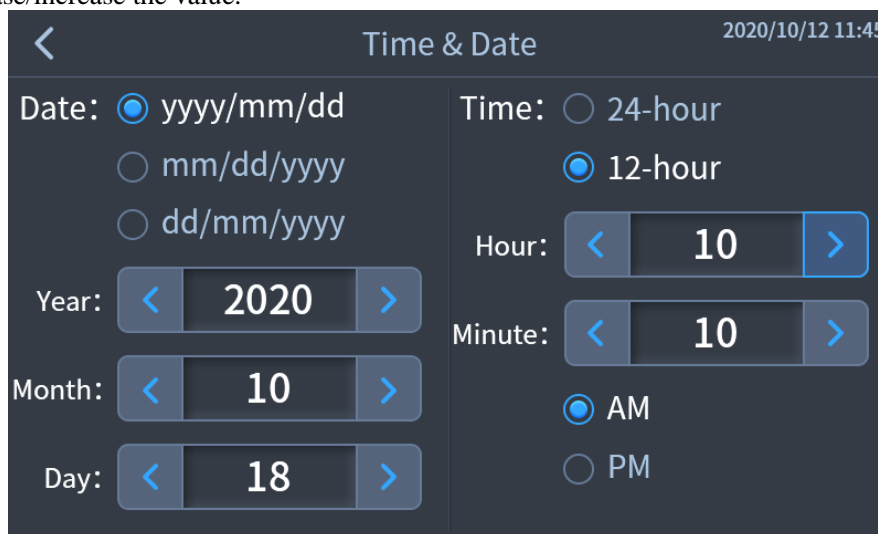

Figure 6-19
- 2) Click  to enter the [Time & Date] interface as shown in Figure 6-19.